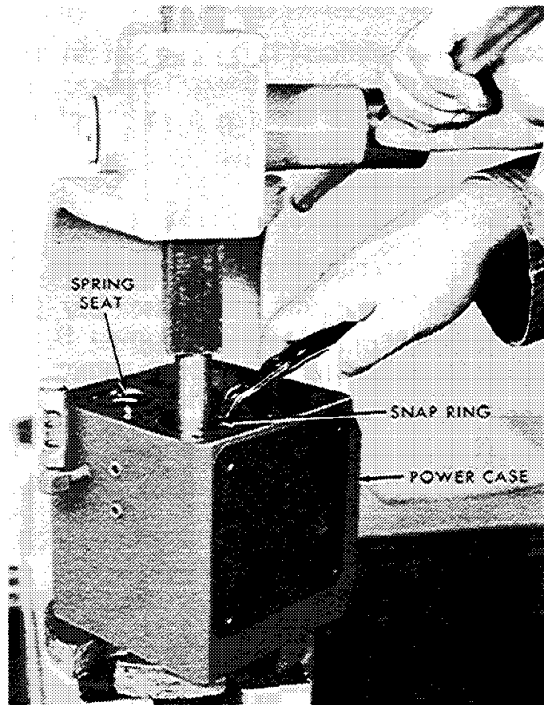
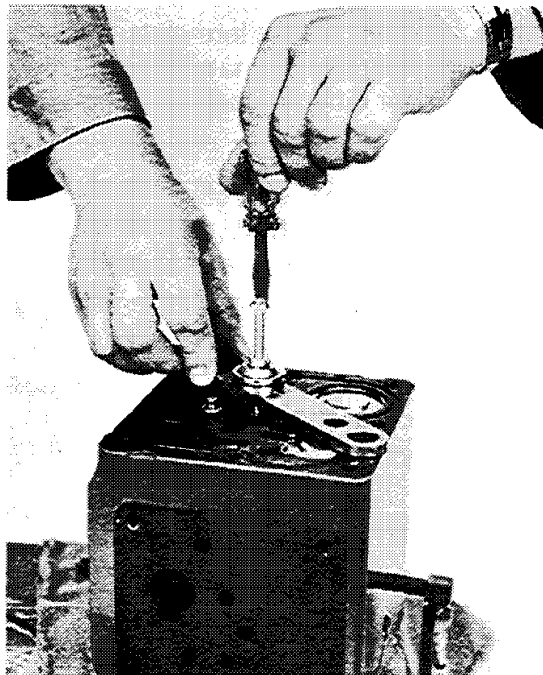

Figure 4-1. Accumulator Disassembly
Figure 4-2. Check Valve Removal
- Place power case (127) in an arbor press or small drill press (end of case with idler stud (132) to be "down"). Place a rod against spring seat (120) to compress accumulator springs (121 and 122) to permit removal of snap ring (119) (see Figure 4-1).
- Slowly relieve compression of springs. Remove spring seat (120), springs (121 and 122), and accumulator piston (131).
- Invert power case (127) and remove lower snap ring (119).
- If necessary to remove check valve assembly (129), proceed in this manner. Press ball through and out of check valve case. Use a 1/4"-28 tap to put a thread on the inside of the valve case. Then, using a 1/4"-28 bolt with a small plate as a jack, pull the valve case out of the power case (see Figure 4-2).
5. If necessary to remove check valve assembly (130), proceed in this manner. Pry the retainer plate from the check valve assembly and remove the spring and check ball. Use a 1/4"-28 tap to thread the inside of the valve case. Then use a 1/4"-28 bolt and plate to pull the valve case out of the power case (see Figure 4-2).